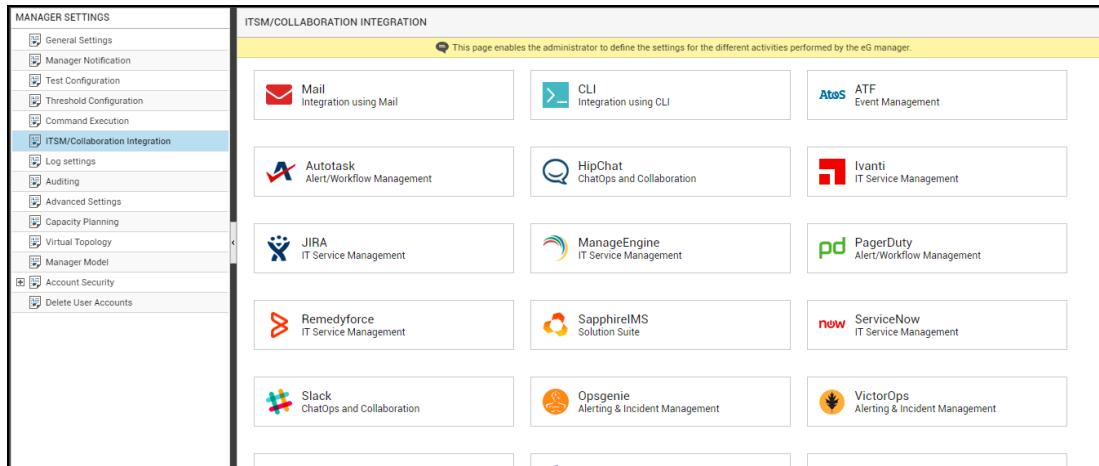
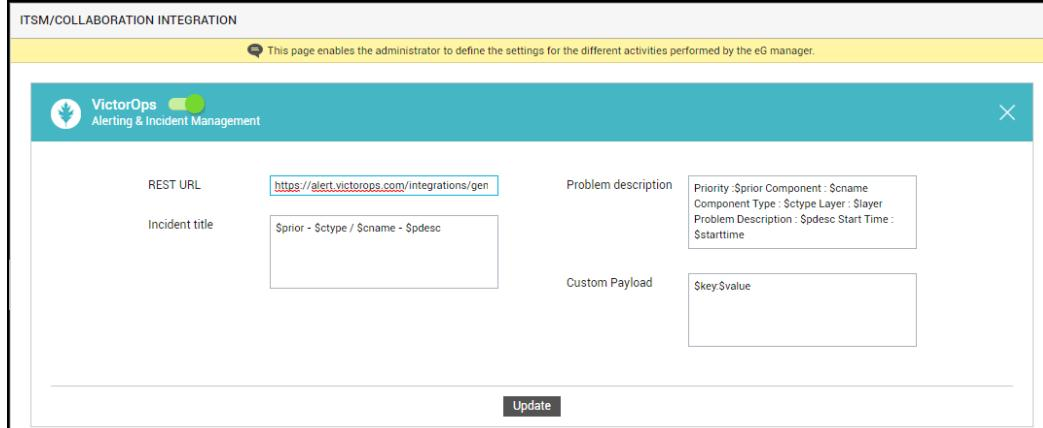

Figure 5.35: Viewing the ITSM/Collaboration tool options
Figure 5.36: Configuring integration with VictorOps
3. Figure 5.35 will then appear. From the **MANAGER SETTINGS** tree in the left panel of Figure 5.35, select the **ITSM/Collaboration Integration** node. The third-party ITSM/Collaboration tools that eG Enterprise can integrate with will be listed in the right panel.
4. Now, click on the **VictorOps** option in the right panel (see Figure 5.35). A **VictorOps** section will now appear in the right panel (see Figure 5.36).
5. To enable integration with VictorOps, first slide the **VictorOps** slider in Figure 5.36 to the right.
6. Then, specify the following in Figure 5.36:
- Finally, click the **Update** button in Figure 5.36 to save the changes.